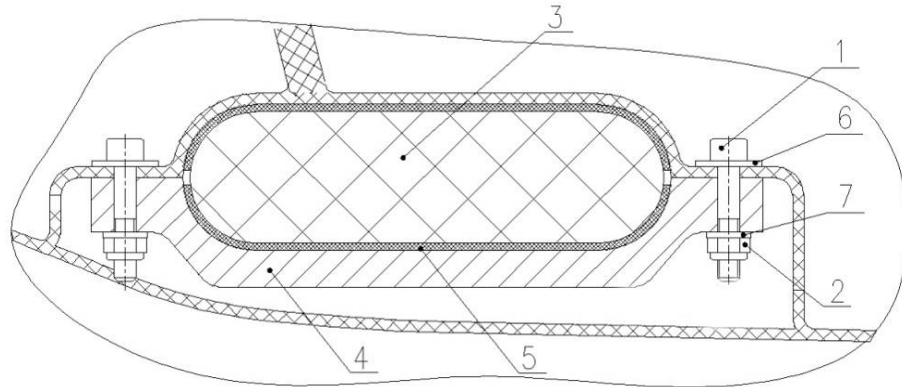

Fig. 32-10-12
7	Unscrew 2 self-locking nuts M6 (2) at lower attachment points and remove bolts (1). Remove clamp (4) and rubber seal (3) (Fig. 32-10-12).